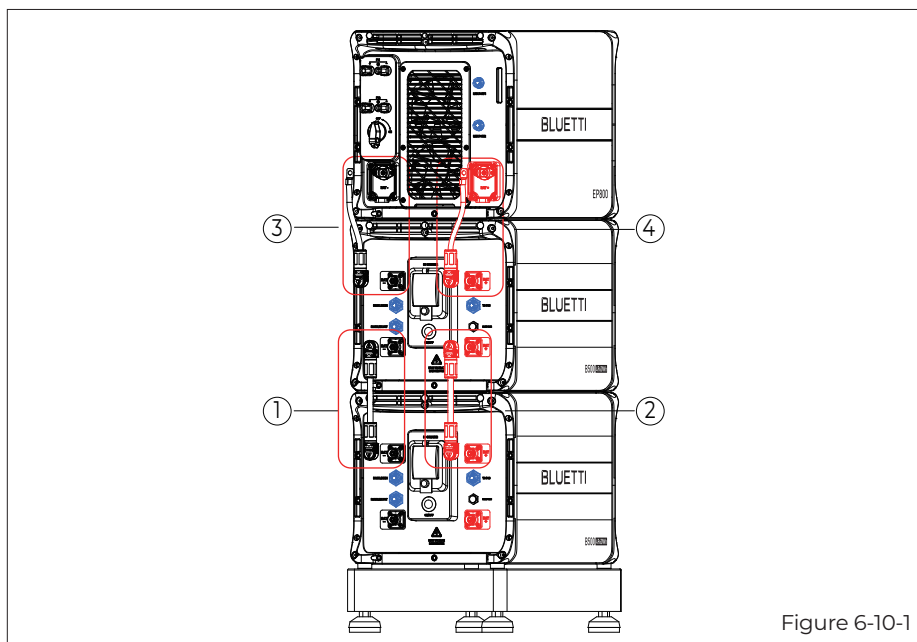

Figure 6-10-1
Step 1: Connect two B500 battery packs via the battery expansion cables - black cable for negative terminals, red for positive terminals. See “①” “②” of Figure 6-10-1 and 6-10-2.
Step 2: Connect the top B500 to EP800 inverter via the battery power cables - black cable for negative terminals, red for positive terminals. See “③” “④” of Figure 6-10-1 and 6-10-2.